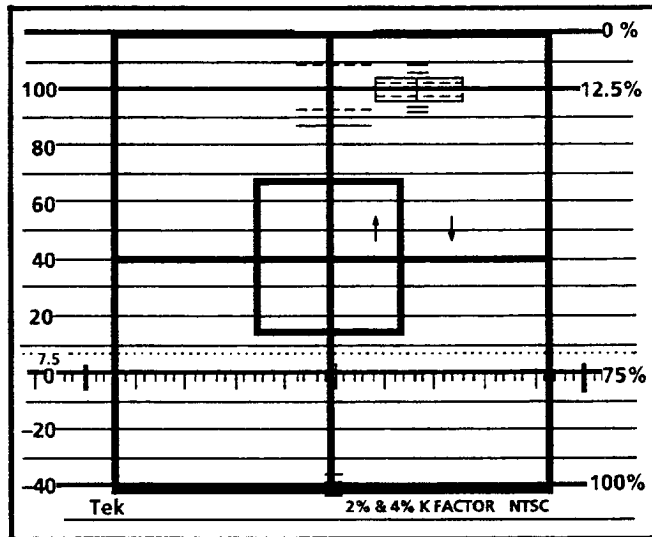

Figure 2-11: DAC test pattern superimposed on the 1730D graticule
**READOUT DAC.** Selecting the READOUT DAC brings up a test pattern showing that the Readout DAC is operational. See Figure 2-11. The test pattern is used to adjust the readout size and position.